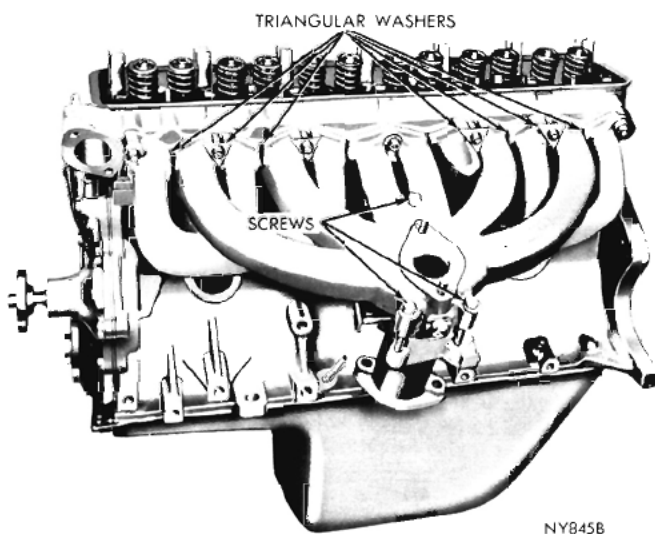

Fig. 8—Manifold Assembly (6-Cylinder)
(2) Disconnect the vacuum control tube at the carburetor and distributor. Disconnect the fuel line, the crankcase ventilating valve hose, the automatic choke rod and throttle at the carburetor and remove the carburetor.
(3) Disconnect the exhaust pipe at the exhaust manifold.
(4) Remove the nuts and washers attaching the manifold assembly to the cylinder head and remove the manifold (Fig. 8). Remove the three screws securing the intake manifold to the exhaust manifold and separate the manifolds.
(5) Discard the gasket and clean all gasket surfaces on the manifolds. Wash the manifolds in solvent and dry with compressed air.
(6) Test the mating surfaces of manifolds for parallelism with a straightedge. Surfaces should be flat within .008 inch.
(1) Install a new gasket between the two manifolds and install the three long screws securing the manifolds (Fig. 8). **Do not tighten the screws at this time. Leave them loose temporarily.**
(2) Position the manifold assembly on the cylinder head, using a new gasket. Install the triangular washers and nuts on the upper studs opposite numbers 2 and 5 cylinders and on the six lower studs. The eight triangular washers should be positioned squarely on the machined surfaces of both the intake and exhaust manifold retaining pads. These washers must be installed with the cup sides against the manifold. Install the nuts and washers only when the engine is cold.
(3) Install the other conical washers with cup side against manifold. Tighten nuts to 10 foot-pounds.
(4) Tighten the three screws securing the intake manifold to the exhaust manifold to 15 foot-pounds, starting with the **inner** screw, then the **two outer** screws.
(5) Attach the exhaust pipe to the manifold flange, using a new gasket and tighten bolt nuts to 35 foot-pounds.
(6) Install the carburetor and connect the automatic choke rod and throttle linkage. Assemble crankcase ventilating valve hose, vacuum control tube and fuel line to carburetor. Install the carburetor air cleaner, and connect the closed breather cap hose to air cleaner inlet tube, if used.